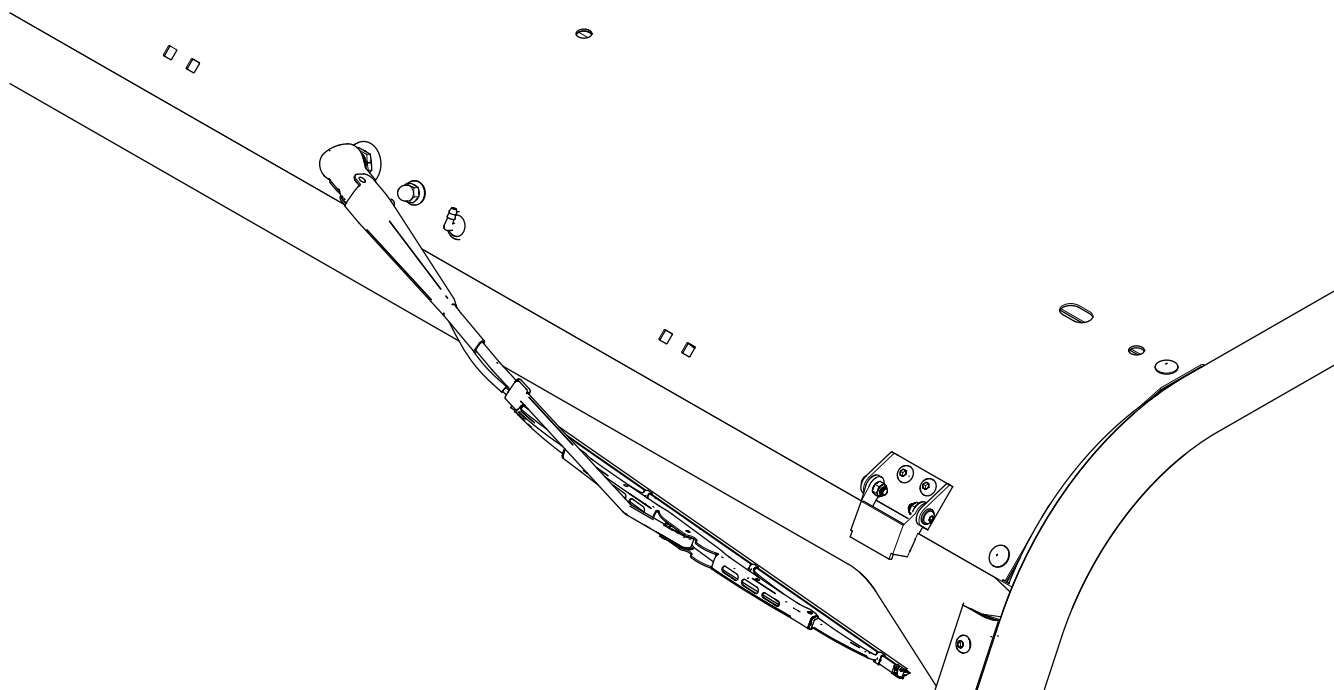

Figure 11
4. Secure the wiper blade to the hook on the wiper arm (Figure 11).